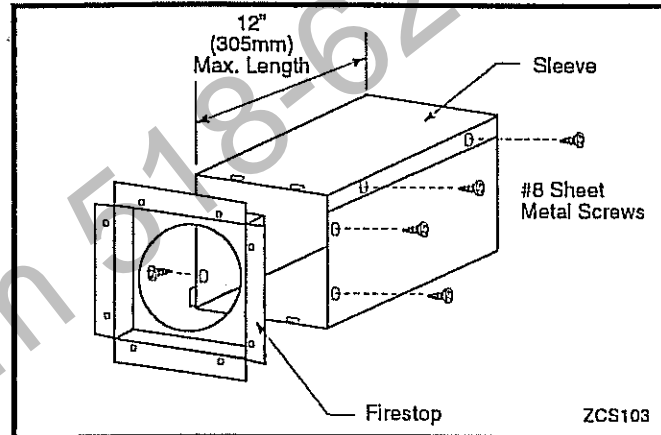

Fig. 45 Assemble the wall sleeve and firestop.
2. Measure the wall thickness and cut the Wall Sleeve sections to proper length, (MAXIMUM 12"). Assemble the sleeve with the #8 sheet metal screws supplied. Attach the Firestop plate to the sleeve end with the holes. (Fig. 45) **NOTE: The Wall Sleeve is required in combustible walls only.**